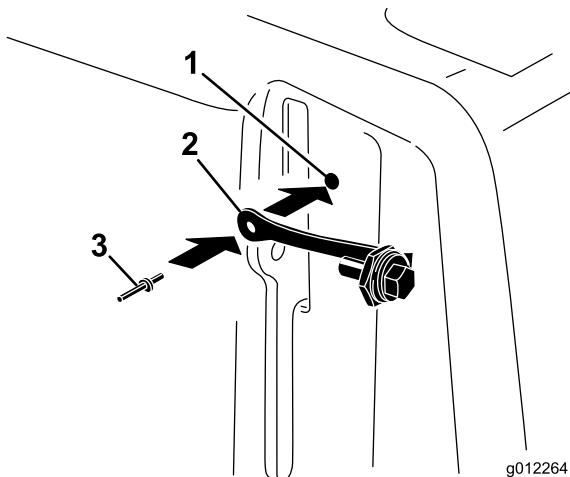

Figure 10
1. Locate the hole in the belt cover next to the latch lever (Figure 9 and Figure 10).
2. Using the hole in the belt cover, install the lanyard assembly with a pop rivet (Figure 10).